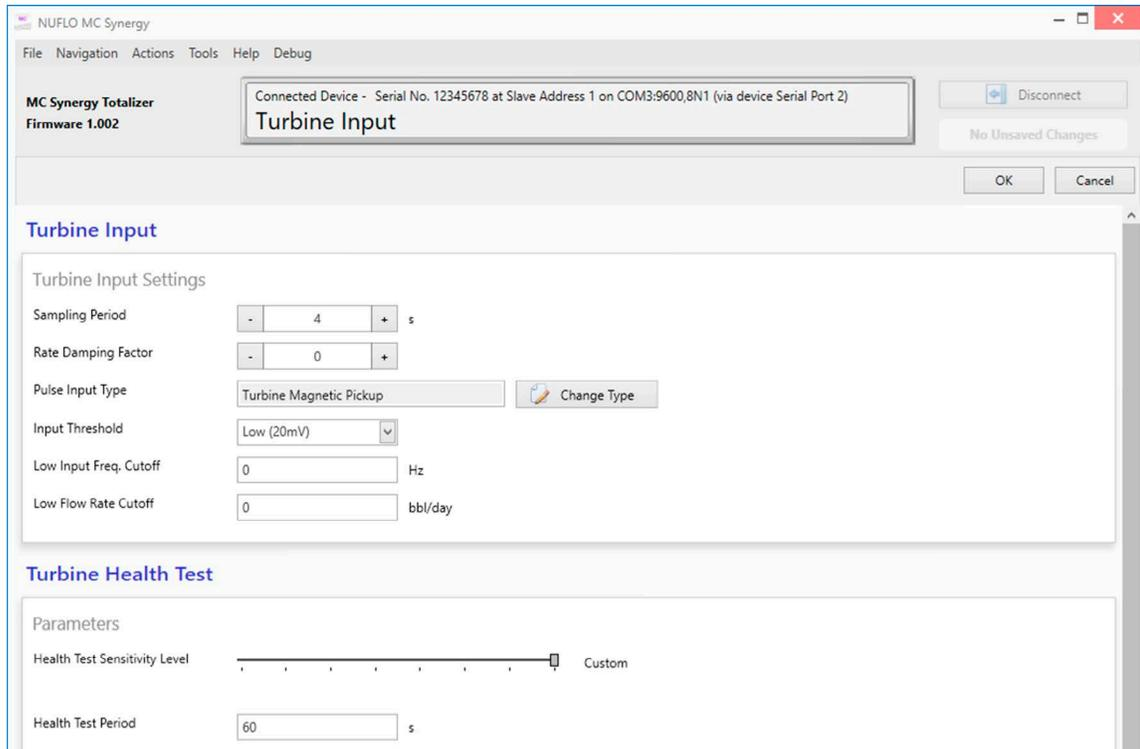

Figure 7.3—Change Turbine Input dialog
- Pulse Input Type. The type of input coming in which will be specified on the turbine meter connected to the MC Synergy (Figure 7.3, page 63).